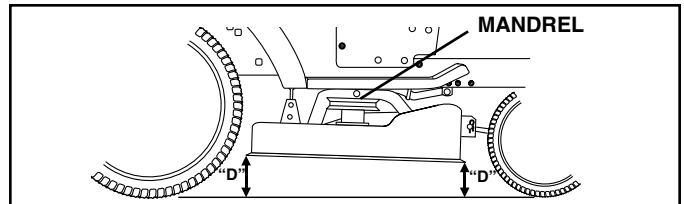

FIG. 17
**FRONT-TO-BACK ADJUSTMENT** (See Figs. 17 and 18)